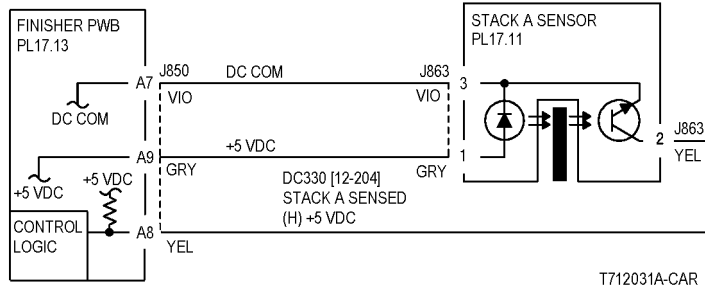
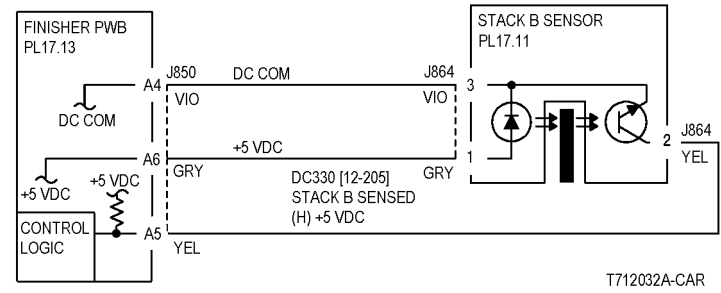
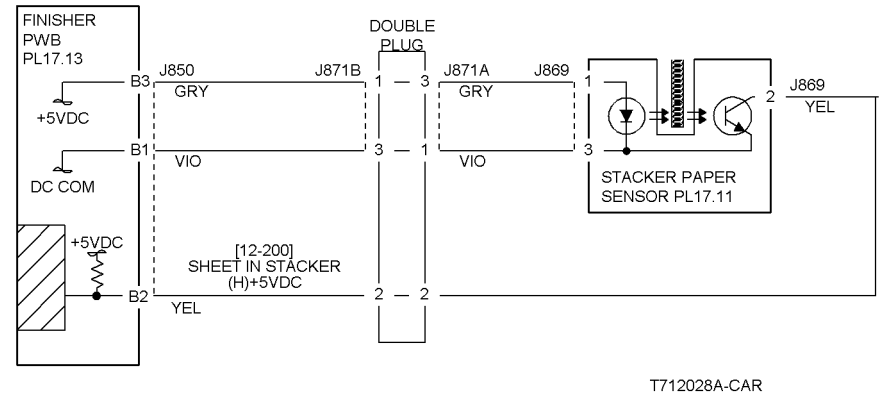
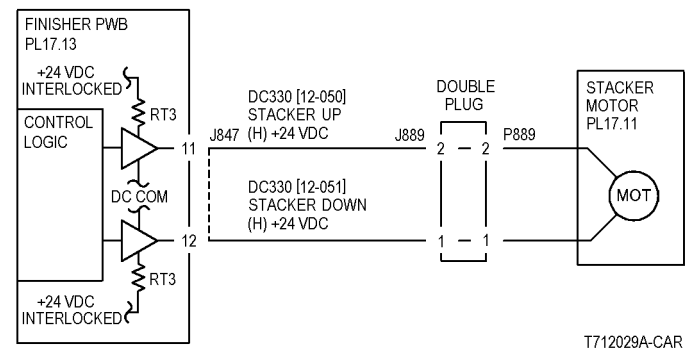

Figure 2 Stack A Sensor CD
Figure 3 Stack B Sensor CD
Figure 4 Stacker Paper Sensor CD
Figure 5 Stacker Motor CD
Press Stop. Check the circuit of the Stacker Paper Sensor (**Figure 4**). Refer to the **OF 99-2 RAP** for troubleshooting procedure.
- Ensure that the connectors shown in the circuit diagrams (**Figure 2**, **Figure 3**, **Figure 4**, **Figure 5**) are securely connected and that the wires are not damaged.